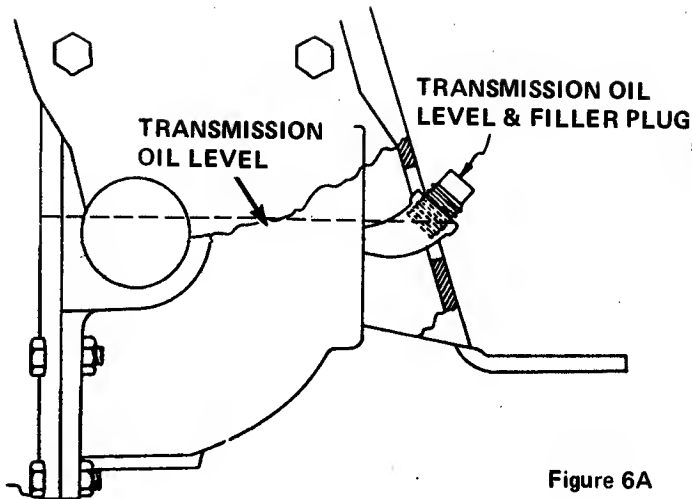

Figure 6A
2. Wipe dirt from around the oil level and filler plug. Figure 6A.
3. With engine running, remove plug. Oil level is correct when it is at the top of the filler elbow as shown in Figure 6A.